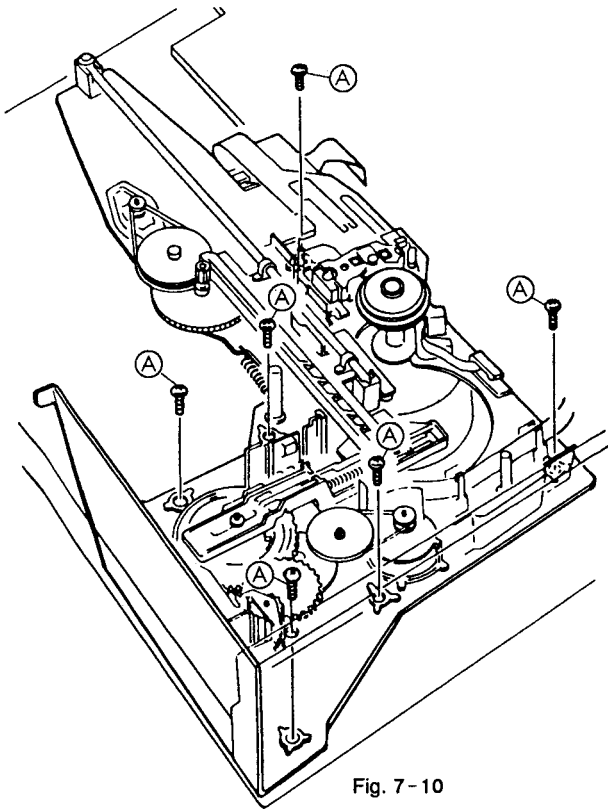

Fig. 7-10
7.8 REMOVING THE MECHANISM SECTION (Fig. 7-10)